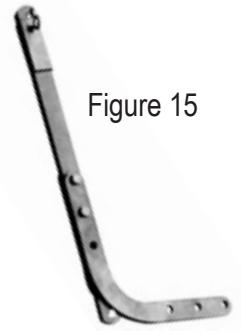

Figure 15
Assemble the drawbar arm together using (2) 3/8" x 1" SS hex head bolts and (2) 3/8" SS flange nuts (typically preassembled). Adjust the arm to the correct length by holding the arm up to the trolley bracket assembly and aligning it with the door arm bracket. (Figure 15)